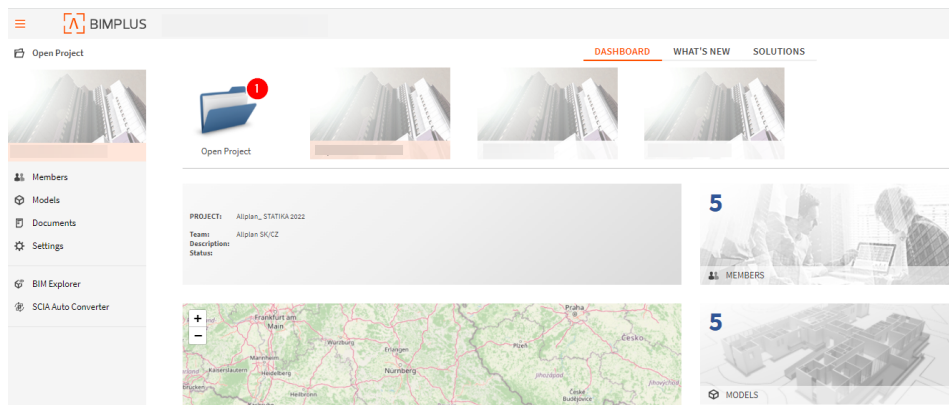

Figure 41: Open project on Bimplus
1. After logging into the Bimplus portal, using the same credentials as for SCIA AutoConverter. Open the project menu. (Figure 41)